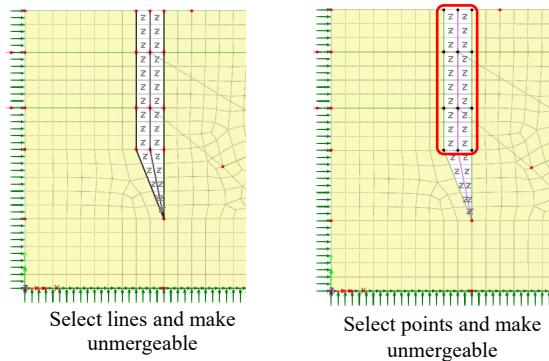

Figure 60: Make all geometry unmergeable before moving into place
- Then select the 12 points as shown, and click on **Geometry > Point > Make Unmergeable** (figure 60).